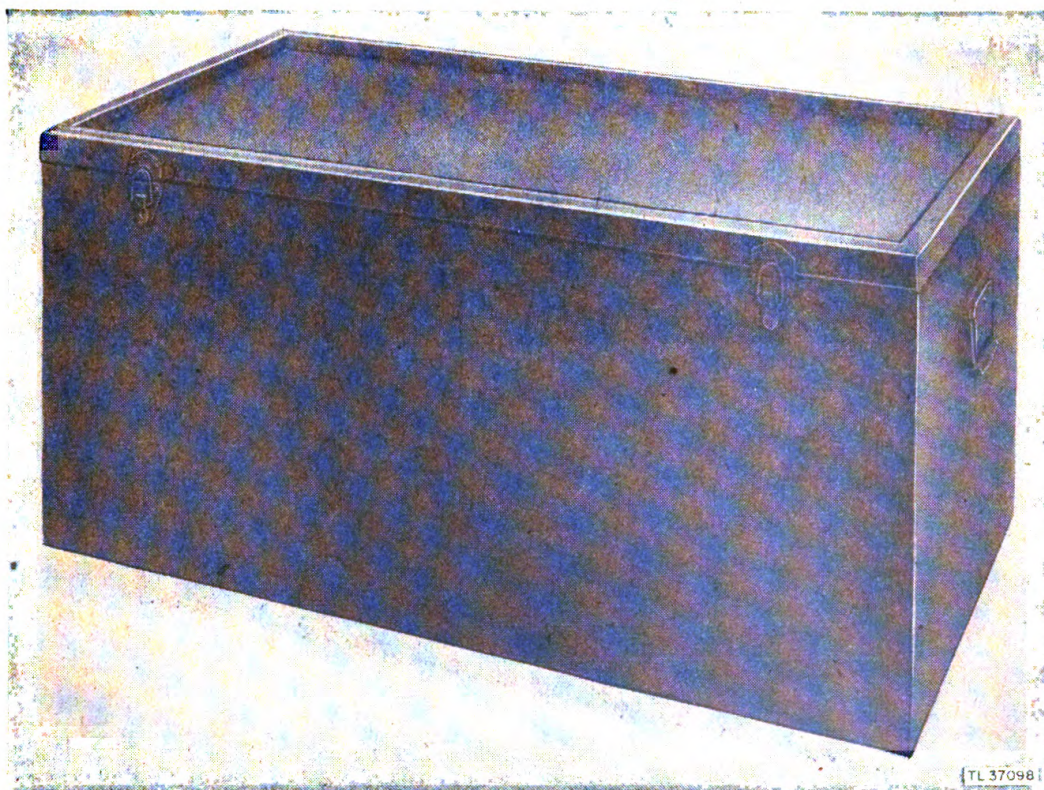

Figure 24. Chest CH-273.
a. Chest CH-273 (fig. 24) is a wooden chest $42\frac{1}{2}$ inches long, $22\frac{1}{4}$ inches wide, and $20\frac{3}{4}$ inches high. Two of these chests are furnished to store the smaller components of Test Set AN/MPM-7.
b. Chests. Clean the chests (figs. 24 and 25) periodically to prevent dust and dirt from accumulating on the test equipment stored in them. Scrape off any broken or cracked paint and repaint the affected area. Use sandpaper to remove the paint and to prepare the surface for the new coat of paint.
(1) Inspect the cords regularly for worn or damaged covering and insulation. If any such places are found, repair or replace the damaged cord immediately.
(2) Set up the equipment in such a way that no cords are resting on any sharp objects or stretched over the edge of the bench or any test equipment. Make no sharp bends in the cords, because they may result in damage to the wire or covering.